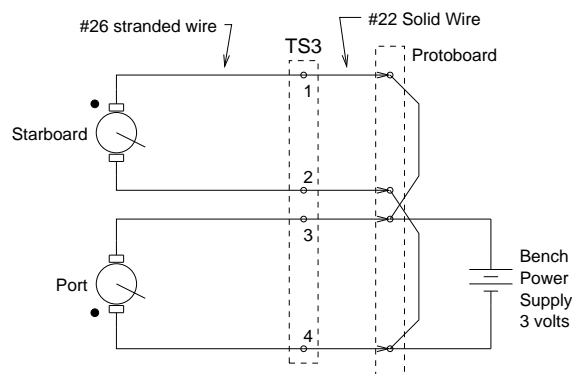

Figure 2: Motor Terminal Wiring
2. According to figure 2, wire up the motors to terminal strip TS3.